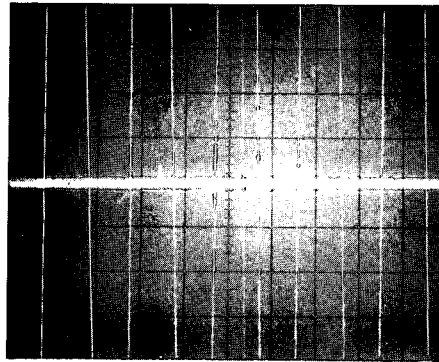

Figure 5-8. Waveform at A13TP3.
- c. Adjust "OFS-3" potentiometer A13R66 until dc level of displayed waveform is $0\text{mV} \pm 10\text{mV}$. Refer to Figure 5-8 which shows well adjusted waveform.